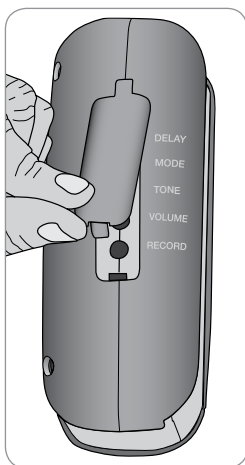

Fig. 10
1. Lift the programming control protective cover (Fig. 10).